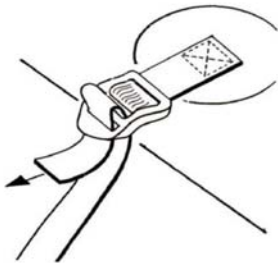

FIGURE 2
1. Spread out the cargo bag onto a smooth, clean surface and attach the lashing strap assemblies as shown in figure 2.